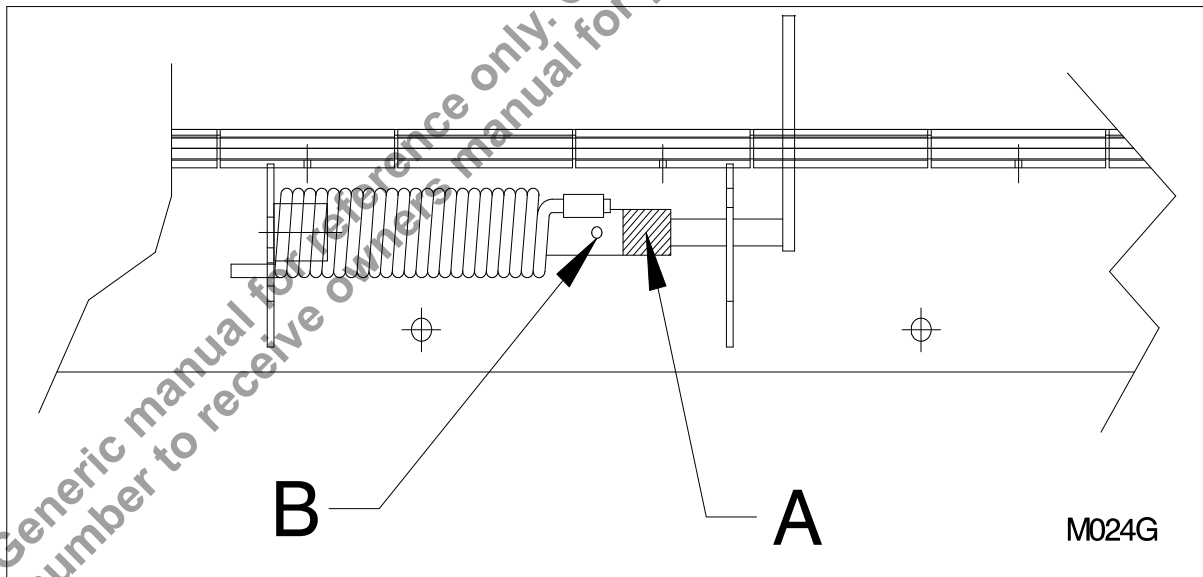

Figure 8: Spring Tension Adjustment
2. Loosen the two set screws (See Figure 8: Spring Tension Adjustment on page 11 item B) on the spring winder.
3. Using a 1 ½" wrench place on area A (See Figure 8: Spring Tension Adjustment on page 11) of the spring winder, turn the spring winder towards you approximately ¼ turn, hold and retighten the two set screws.